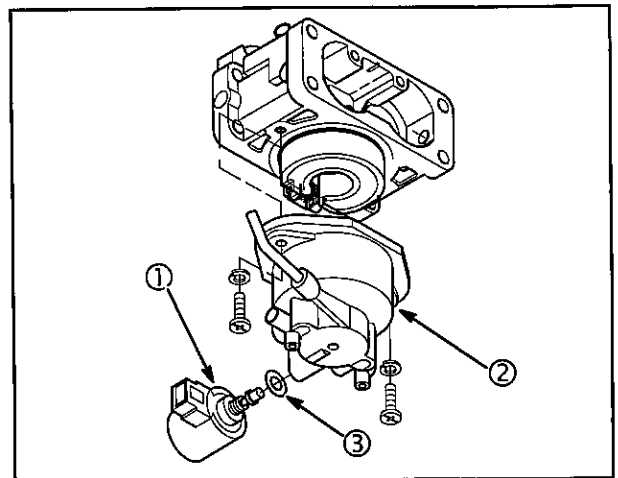

Fig. 117
2. Remove two screws and float bowl (2), **Fig. 117**. Discard O-ring.
3. Use **13 mm** thin profile wrench to remove fuel solenoid (1) from float bowl. Discard gasket (3).